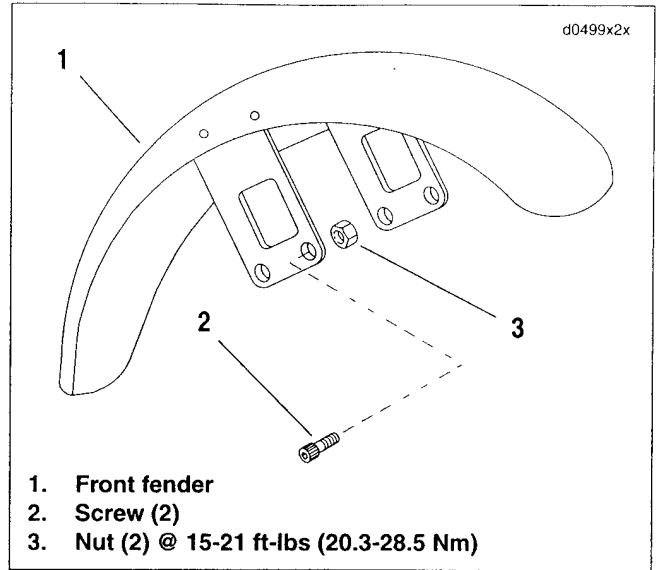

Figure 2-116. Front Fender: All But FXDWG
- a. For all models except FXDWG, see Figure 2-116. Remove both fender mounting screws (2) and nuts (3) on each side.
- a. For all models except FXDWG, see Figure 2-116. Install screws (2) through fender mounting holes in fork legs. Thread nuts (3) onto screws.